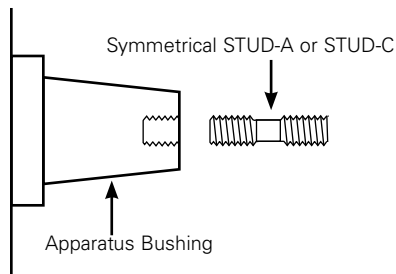

Figure 25. Line illustration of bushing stud installation.
- Thread the stud into the apparatus bushing unit hand tight. Refer to Figure 25.